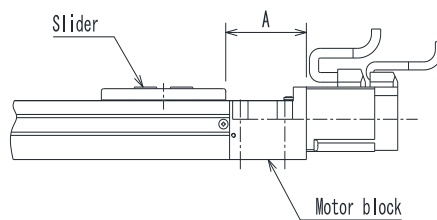

Fig. 5.6-4
- (5) Temporarily connect the actuator and controller, connect the teach pendant with the controller, then turn the power on. For how to connect, see Para. 2.4.5 of the instruction manual (basic) provided separately.
- (6) Set the servo gain values (position and speed) of Parameter 1 to zero (0). For the setting procedures, see Para. 13.3.3, 13.3.4 of the instruction manual (basic).
- (7) Specify "3" for the home return method of Parameter 2.
- (8) Execute the home return.
- (9) Move the slider to the position shown in Fig. 5.6-4 and tighten the coupling clamp screw.
The home position differs between the BET5 and BET7 actuators. (See Fig. 5.6-4.)